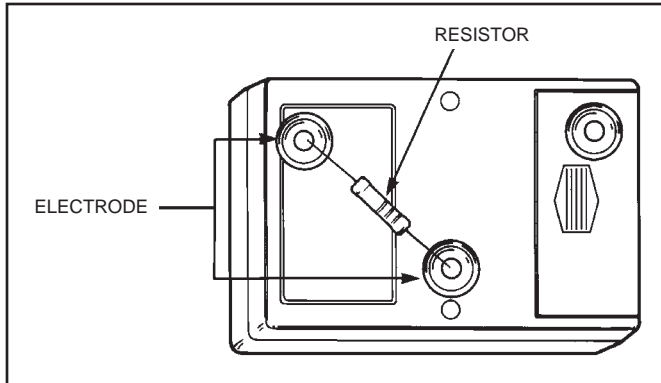

Figure 7. Calibration of the Micro Meg
A check on the function of the Micro Meg can be performed with the following procedure. You will need 1% resistors of the following values: 5 x 10E5 ohms; 5 x 10E6 ohms; 5 x 10E7 ohms; 5 x 10E8 ohms, 5 x 10E9 ohms, and 1 x 10E10 ohms. These precision resistors will be placed across the two electrodes on the bottom of the meter (see Figure 7).
B. Place the 1 x 10E10 ohms resistor across the middle electrode and the side electrode as illustrated in Figure 7. Press the test button. The second LED should light. Be sure not to contact the leads or the buttons as your body's resistance will affect the readings. Then use the 5 x 10E9, the 3rd LED should light. Continue down the line of resistors to test all the ranges.